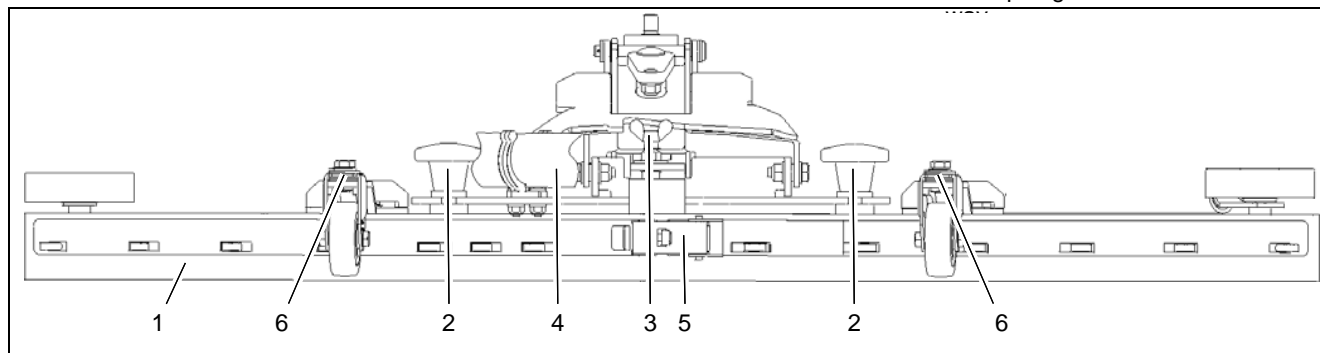

Abb.12
Check the squeegee (Abb. 12/1) daily and clean as necessary.
To clean it lift up the squeegee, pull off the suction hose (Abb. 12/4), loosen the two star-shaped knobs (Abb. 12/2) and remove the squeegee.
Check the inner and outer squeegee blades on the squeegee (Abb. 12/1) weekly for signs of wear. The squeegee blades can be used fourfold by turning them.
3. Unlock the fastening device (Abb. 12/5) and remove the outer squeegee blade. Turn the squeegee blade or install a new one. Change the inner squeegee blade in the same
2. Loosen the counternut on the adjusting screw (Abb. 12/3) and adjust the squeegee using the adjusting screw so that the ends of the squeegee blades have contact with the floor. Figure A